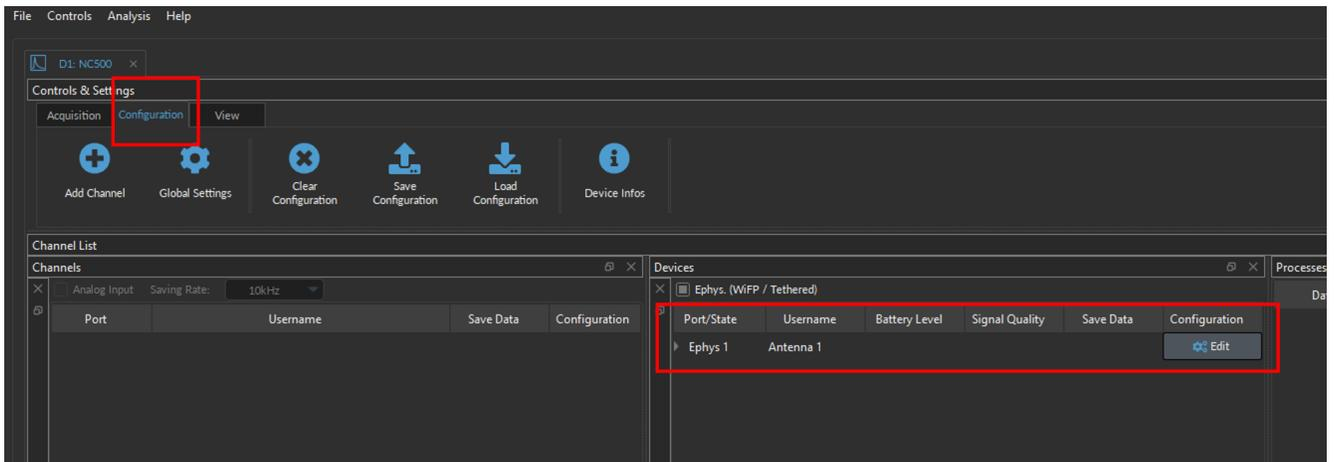

Figure 2.10: Access to LED Power Change
- Go to the **Configuration** tab and click **Edit** (Figure 2.10).